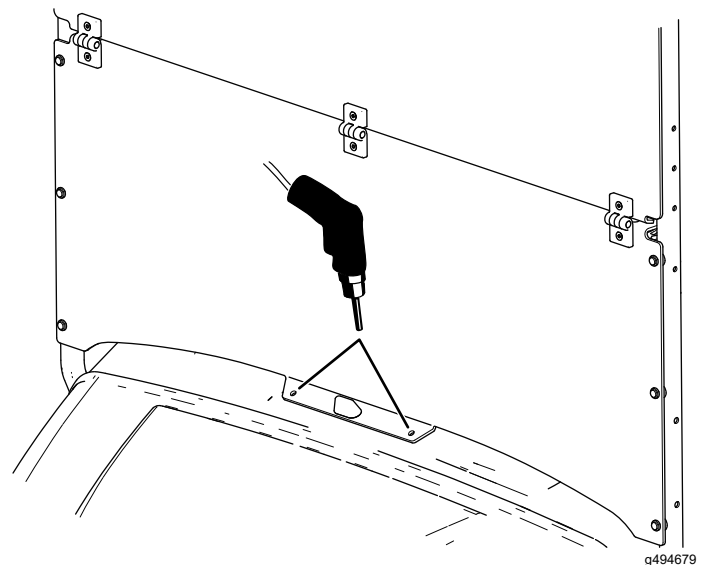

Figure 4
4. Using the windshield as the template, drill 2 holes (8 mm or 5/16 inch) into the dash (Figure 4).